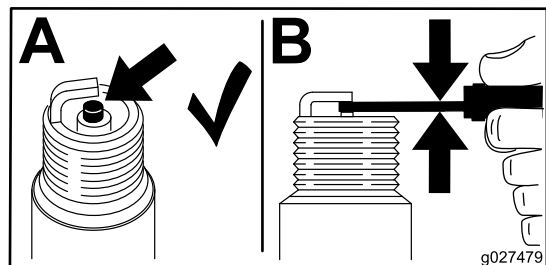

Figure 44
3. Remove the spark plug (Figure 44).